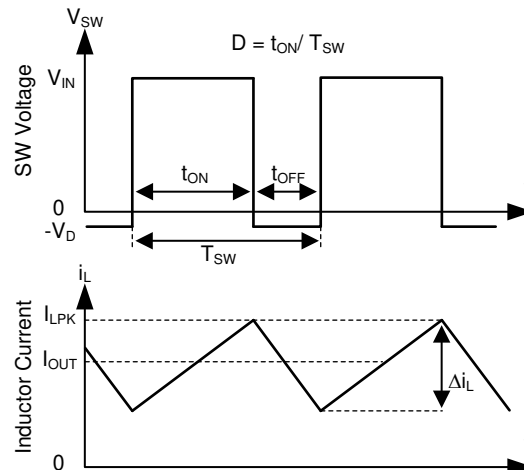

图 10-2. SW Node and Inductor Current Waveforms in Continuous Conduction Mode (CCM)
The following operating description of the TPS2585x-Q1 refers to the Functional Block Diagram. The TPS2585x-Q1 integrates a monolithic, synchronous, rectified, step-down, switch-mode converter with internal power MOSFETs and USB current-limit switches with charging ports auto-detection. The TPS2585x-Q1 offers a compact and high efficiency solution with excellent load and line regulation over a wide input supply range. The TPS2585x-Q1 supplies a regulated output voltage by turning on the high-side (HS) and low-side (LS) NMOS switches with controlled duty cycle. During high-side switch ON time, the SW pin voltage swings up to approximately V_{IN} , and the inductor current, i_L , increase with linear slope $(V_{IN} - V_{OUT}) / L$. When the HS switch is turned off by the control logic, the LS switch is turned on after an anti-shoot-through dead time. Inductor current discharges through the LS switch with a slope of $-V_{OUT} / L$. The control parameter of a buck converter is defined as Duty Cycle $D = t_{ON} / T_{SW}$, where t_{ON} is the high-side switch ON time and T_{SW} is the switching period, shown in 图 10-2. The regulator control loop maintains a constant output voltage by adjusting the duty cycle D . In an ideal buck converter, where losses are ignored, D is proportional to the output voltage and inversely proportional to the input voltage: $D = V_{OUT} / V_{IN}$.